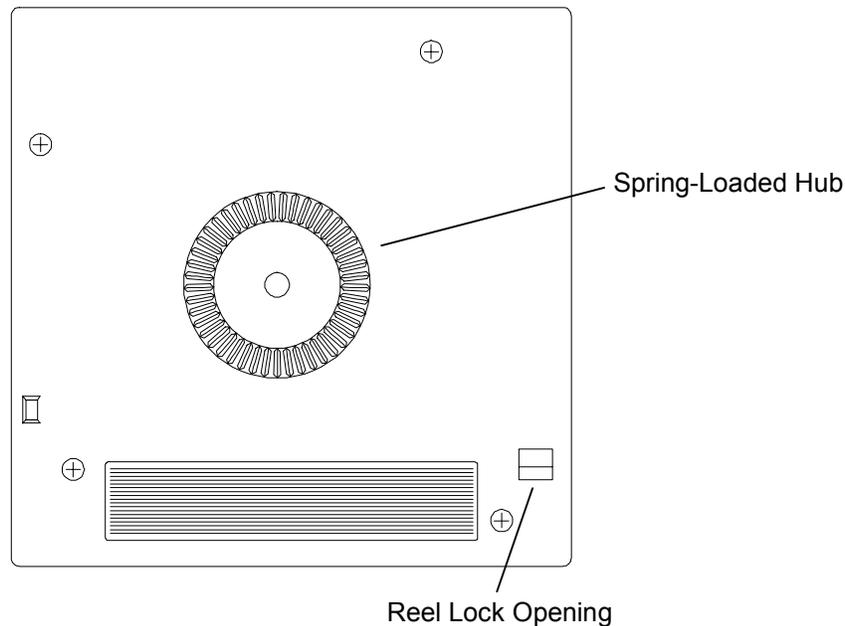

Figure 5-8 Location of Bottom Reel Lock Tab
5. Look at the bottom of the tape cartridge, oriented as in Figure 5-8. Check the reel lock opening and ensure that the plastic tab is partially visible. This is the second reel lock which can break if the cartridge is dropped. This may cause any rattling sound when the tape cartridge is gently shaken. **If this reel lock tab is not visible do not use the cartridge.** Also located on the bottom of the tape cartridge is the spring-loaded hub. Verify that the hub is centered within the circular opening in the tape cartridge. Gently press the hub and make sure that it springs back into place. Make sure that it ends up centered within its circular opening.